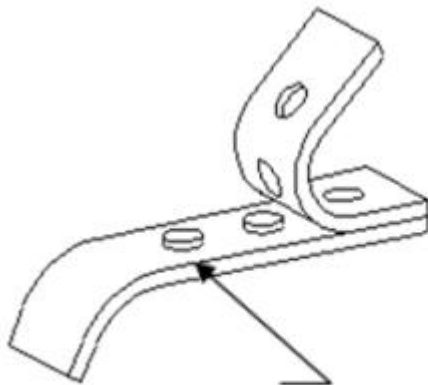
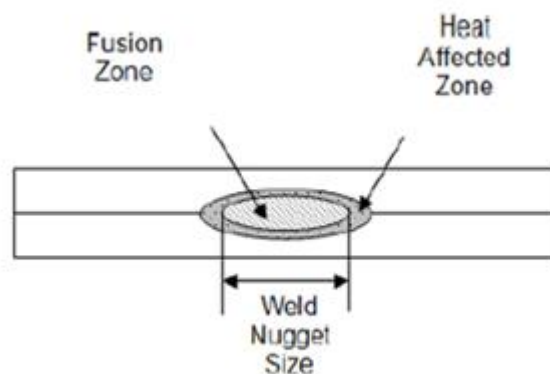

Figure A8: Weld Button
Figure A9: Weld Nugget Size
3. The weld size may be measured by either using the weld button (Figure A8) or the weld nugget (Figure A9). A resistance spot weld is unacceptable when the measured weld size at the faying surface (Figure A11) is less than the acceptable minimum nugget weld size of 4.0mm.